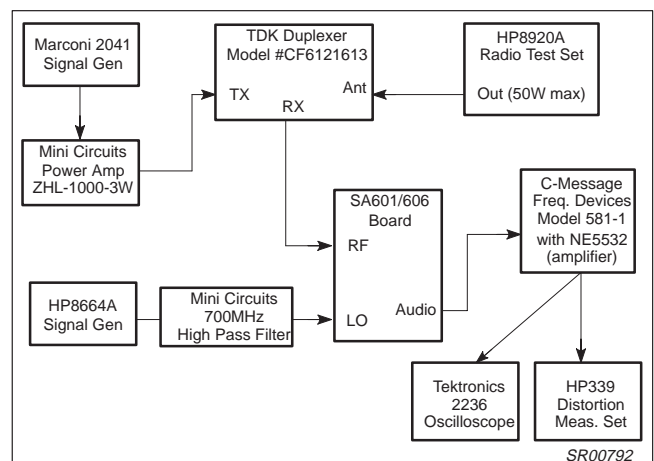

Figure 11. Test Setup for Measuring Transmitter Desensitization
- Configure the test equipment as shown in Figure 11.